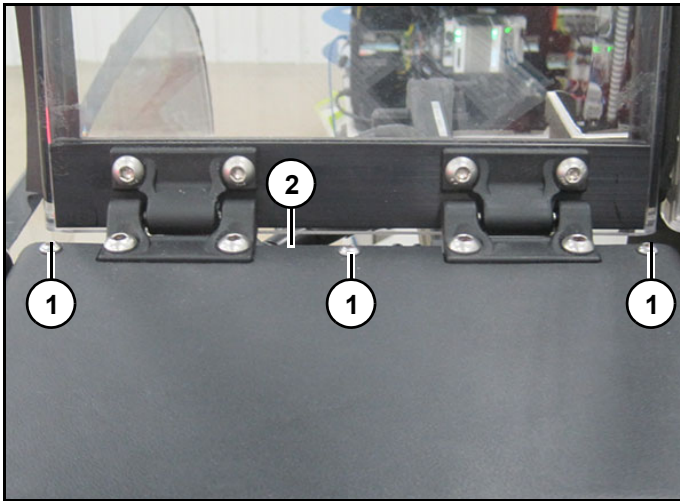

Figure 4
1. Using M3 hex wrench loosen three bolts (1) on top of back cover (2). (Figure 4)